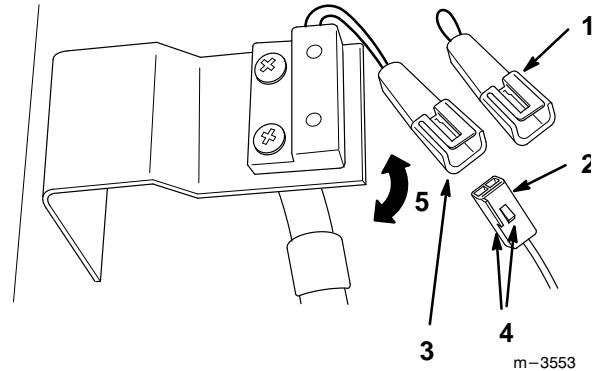

Figure 18
20. Remove jumper wire from main wire harness terminal and install interlock switch connector. Align connector tab and push together firmly so latch locks (Fig. 18).